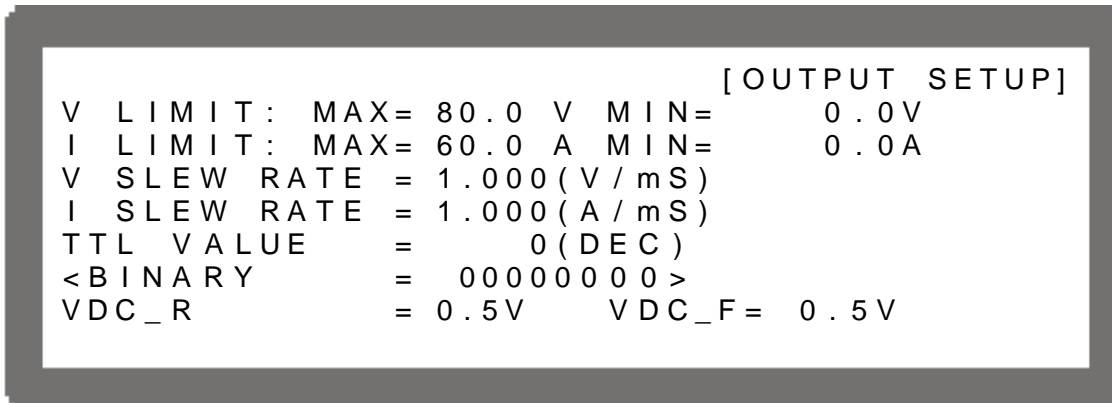

Figure 3-16
1. In Config Setup page, press the “**2**” key to display the screen of Figure 3-16.
The values in Figure 3-16 are the default settings of 42012-80-60.